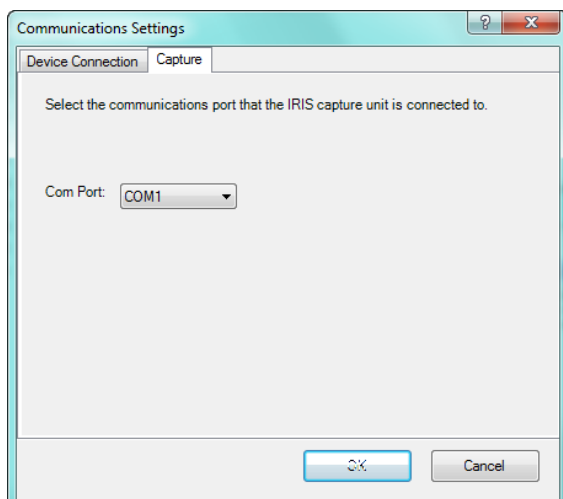

FIG. 29 Communication Settings dialog - Capture tab
2. Open the **Capture** tab (FIG. 29):